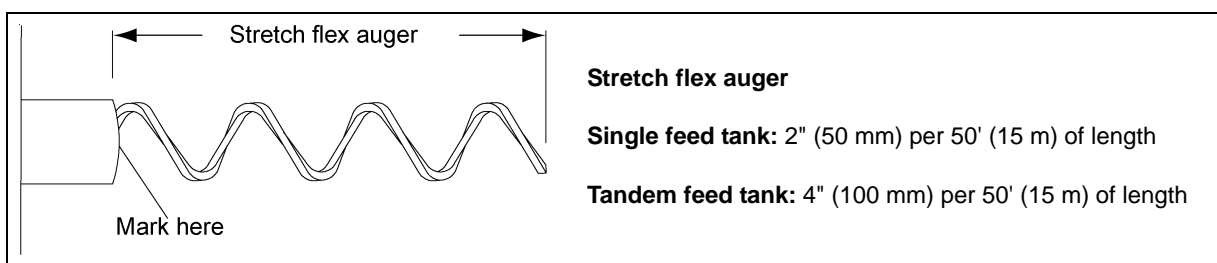

Figure 5V *Stretching the Auger*
5. A certain mechanical stress must be applied when installing the auger; therefore stretching the auger is very important. This is performed by drawing the auger out of the tubing. An important factor is the total system length. The auger should be drawn out of the tubing 2" (5 cm) for every 50' (15 m) of length for single feed tanks. For tandem systems, stretch the auger 4" (10 cm) for every 50' (15 m) of length. (See Figure 5V.)
7. Draw the auger out of the tubing as far as required. Measure the length between the mark and the unloader inlet. Mark the auger again at the unloader inlet when properly stretched. *(See Figure 5V on Page 27.)* Stretching the auger too far will cause premature wear at the inside bends of the PVC tubing. Stretching the auger not far enough will cause premature wear at the outside bends of the PVC tubing.